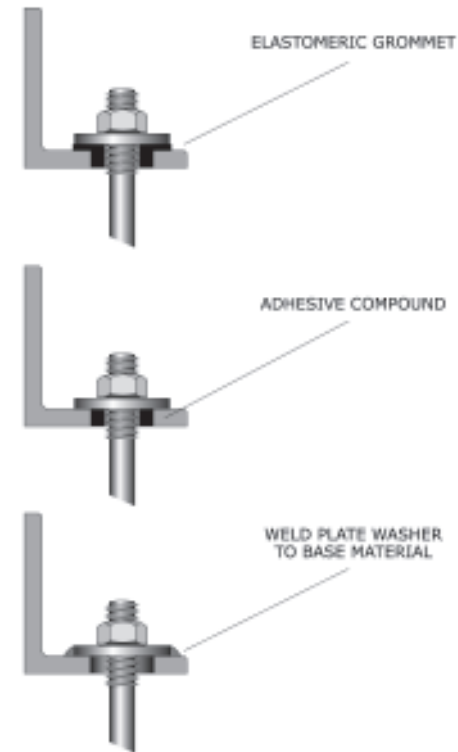

Figure 71: Three options to repair oversized holes.
**New holes cannot be oversized or oval in shape.** Repair oversized holes as shown in Figure 71 (page 35), if necessary.
**New holes cannot be oversized or oval in shape. Repair oversized holes as shown in Figure 71 (page 35), if necessary.**